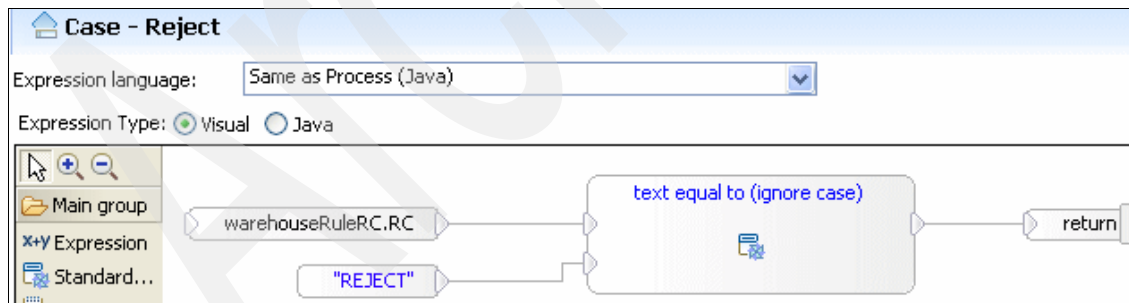

Figure 3-72 Case - Reject logic on warehouse path
- Complete the Case element's logic as shown in Figure 3-72.